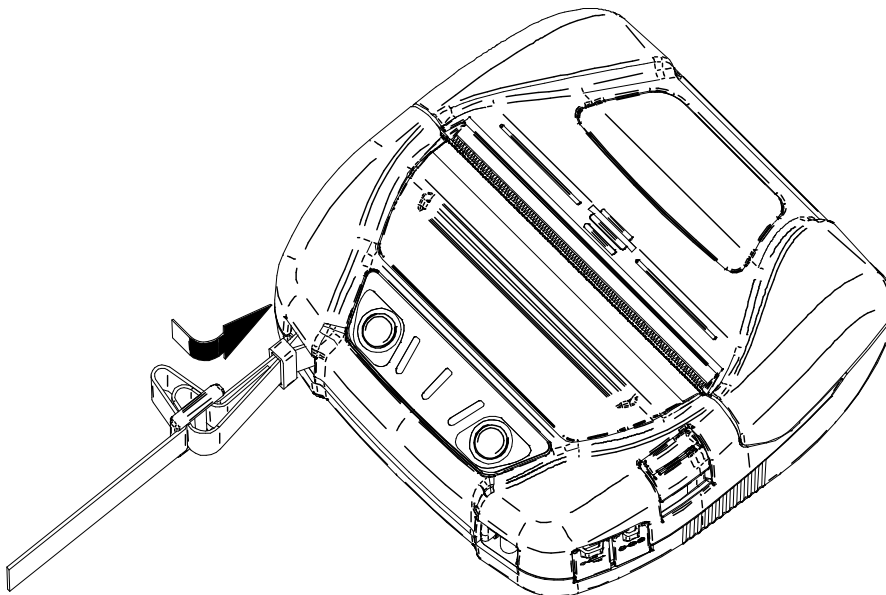

Figure 14-7 Shoulder Strap Installation (4)
- (4) As shown in Figure 14-7, pass the tip of shoulder strap through the adjuster hole on closer side from the printer.